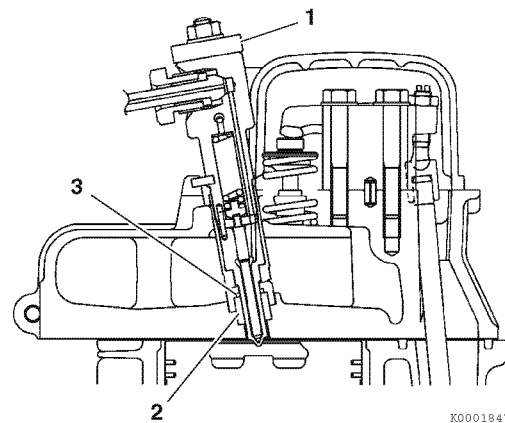

Figure 7-36
1. Install a new nozzle spacer (3, **Figure 7-36**) and gasket (2, **Figure 7-36**) on the fuel injector. See the parts catalog for correct part number(s).
3. Install the injector retainer plate (1, **Figure 7-36**) and tighten the nuts to specification. See *Special Torque Specifications on page 7-4*.